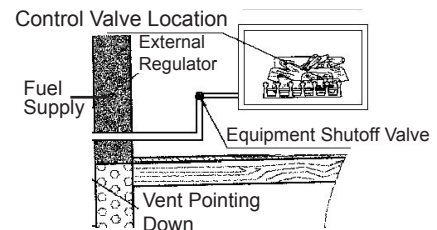

Figure 15-A Checking Gas Joints for NG
3. Check all joints from gas tank to equipment shutoff valve (see Figure 15). Apply mixture of liquid soap and water to gas joints. Bubbles forming show a leak.